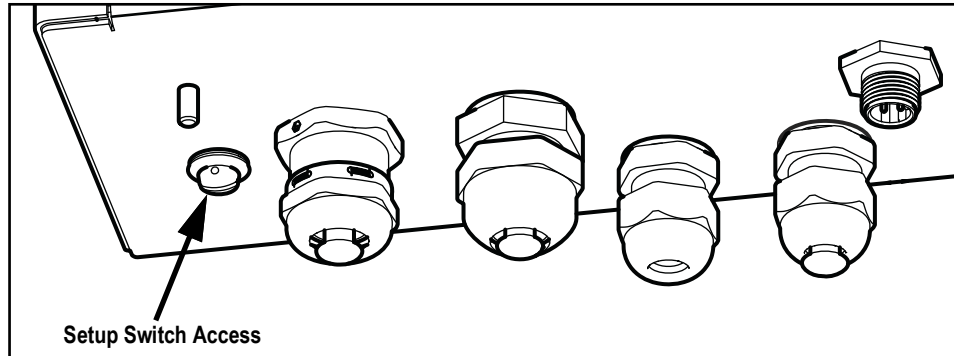

Figure 3-1. Bottom View – Setup Switch Access
- To prevent the use of the **Menu** key to enter the configuration and calibration mode, instead requiring use of the externally seal-able setup switch located inside the enclosure (Figure 3-1 on page 30), place the jumper in the **Off** position